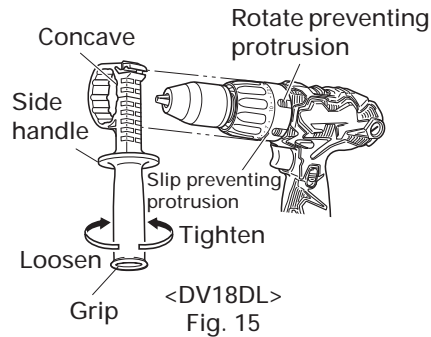

Fig. 15
- (1) Install the side handle so that the protrusions on the main unit and grooves on the side handle interlock. Tighten the grip after checking that the side handle is not riding on the slip prevention protrusion. (Fig. 15)
- (2) Loosen the grip to remove the side handle.